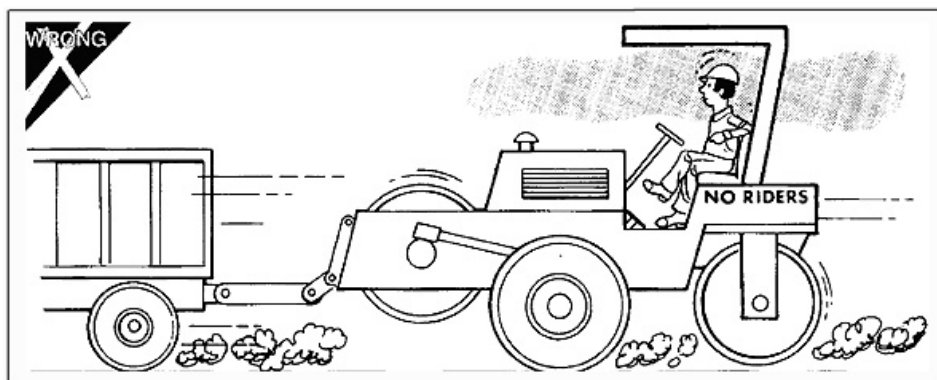

Figure 1-14
- Do not tow the machine for distances over 300 meters. Always obey traffic rules and do not exceed the maximum speed limit during towing. The presence of any person is prohibited inside or on the roller compactor during towing (figure 1-14).